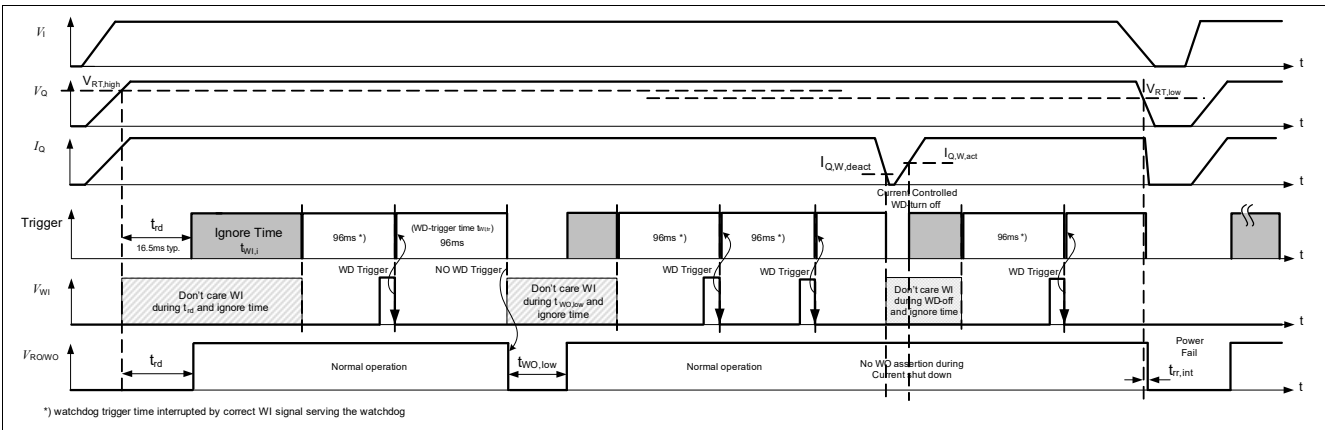

Figure 8 Typical watchdog timing diagram, watchdog and reset modes
Figure 8 shows the state diagram of the watchdog (WD) and the mode selection. After power-on, the reset output signal at the “RO/WO” pin (microcontroller reset) is kept LOW for the reset delay time t_{rd} . With the LOW to HIGH transition of the signal at “RO/WO” the device starts the watchdog ignore time $t_{WI,i}$. Next, the WD starts the watchdog trigger time (time frame within a trigger at WI must occur).